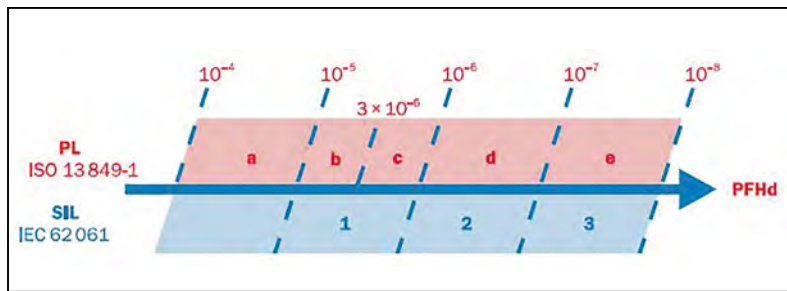

Figure 3: Scale of functional safety levels
There are currently two primary methodologies to determine the likelihood of a dangerous failure; “Performance Level” (PL) as outlined in ISO 13849-1 and “Safety Integrity Level” (SIL) as addressed in IEC 62061. Figure 3 illustrates these methodologies in terms of probability to a dangerous condition.